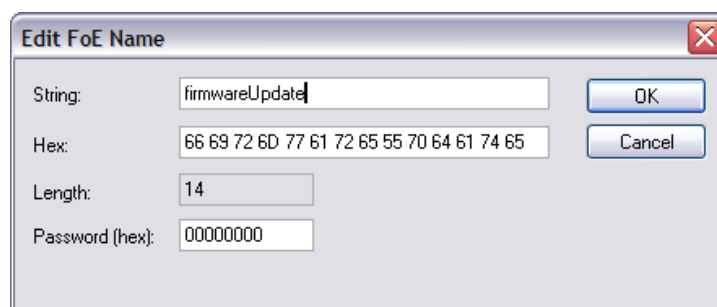

Figure 33: FoE file transfer dialog
4. Now a file transfer dialog (Fig. 33) will appear: Set the file name string to “firmwareUpdate” and leave the password at “00000000”